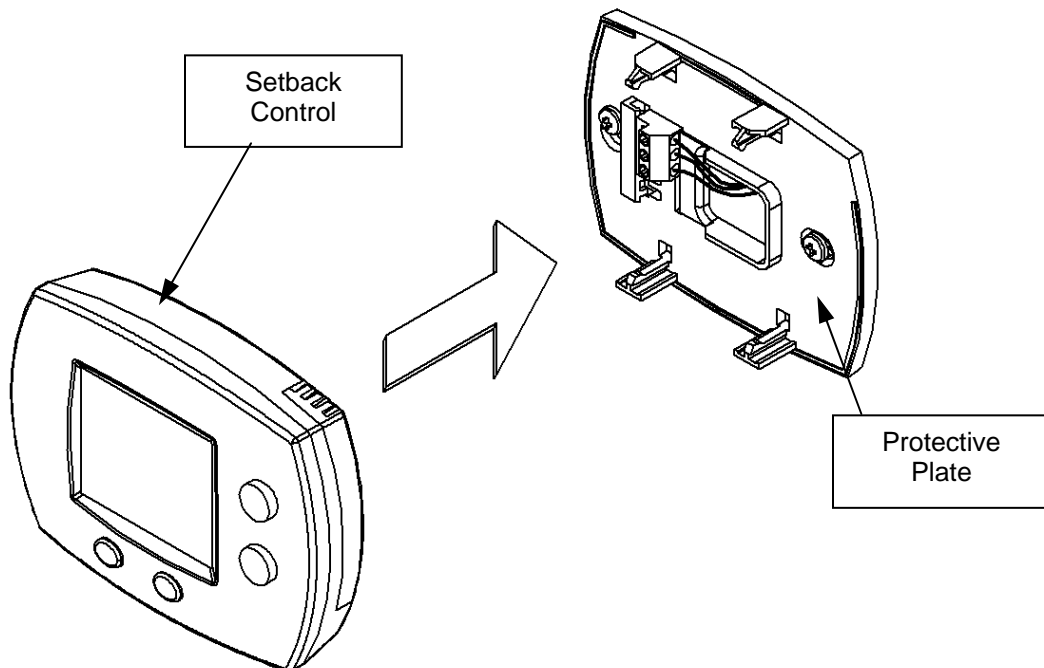

Figure 100
Step 20: Snap the Setback Control into the Protective Plate. Align the Setback Control to the Protective Plate, and press until it is fully seated. This is shown in Figure 100.